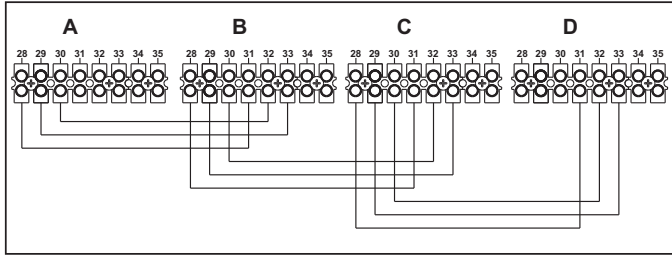

fig. 33 - Connection in cascade
1. Connect the modules as shown in fig. 33 (example with 4 modules)
If this does not occur, disconnect the power and check the wiring in fig. 33.